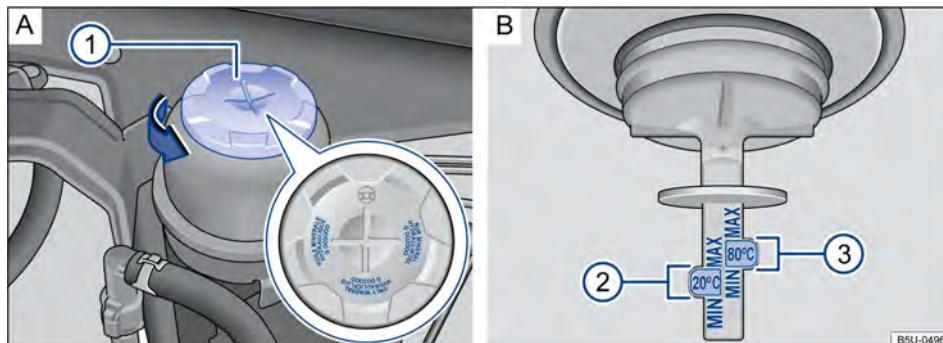

Fig. 84 On the engine compartment: **A** Power steering fluid reservoir. **B** Power steering fluid level control marks.
- Turn the reservoir cap → **Fig. 84 A** (1) in the direction of the arrow.
- Remove the cap again and check the fluid level by the "MIN" and "MAX" markings with the 20 °C indication on the measuring rod **D** (6).
- Remove the cap again and check the fluid level by the "MIN" and "MAX" markings with the 80 °C indication on the measuring rod **D** (7).